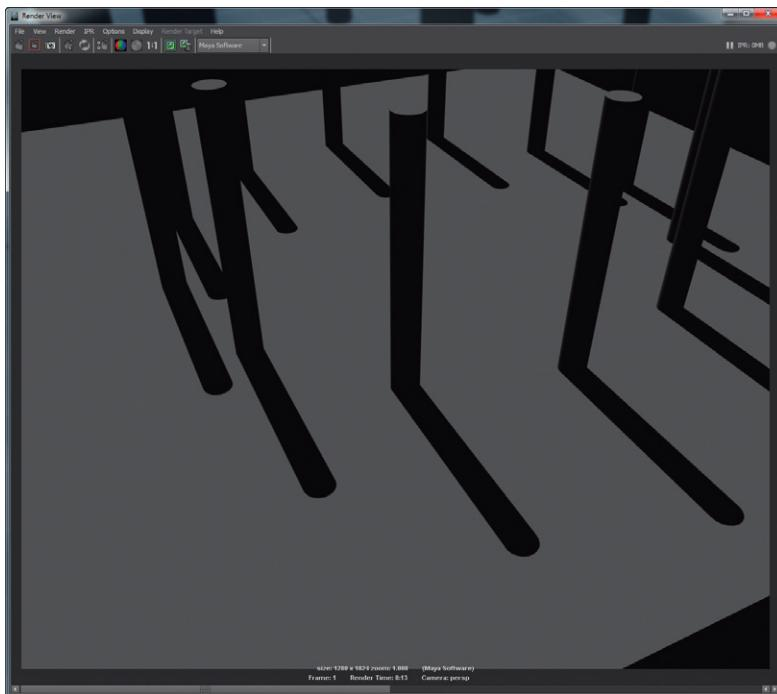

FIG. 7.18 Same Directional Light rendered using a 4096 Depth Map Shadow.
Step 19: Increase the Depth Map Shadow resolution to make a cleaner shadow. Do this in the Attribute Editor. First, change the Filter setting back to 1, then try turning up the Resolution setting (in the Depth Map Shadow Attribute section) to 1024 and render. Try 2048 and render. Finally, give 4096 a shot and render (Fig. 7.18).